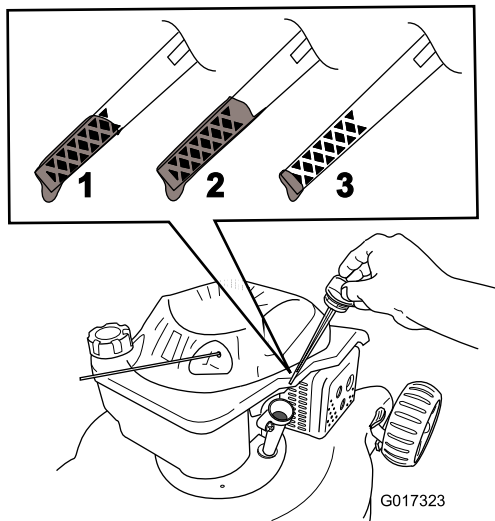

Figure 5
2. Remove the dipstick (Figure 5).
3. **Slowly** pour oil into the oil fill hole, wait a few minutes, and check the oil level on the dipstick by wiping the dipstick clean and then inserting, **but not screwing in**, the oil fill cap into the hole (Figure 5).
- Note:** Fill the engine crankcase with oil until the dipstick indicates that the engine oil level is correct as shown in Figure 5. If you overfill the engine with oil, remove the excess oil as directed in Changing the Engine Oil.